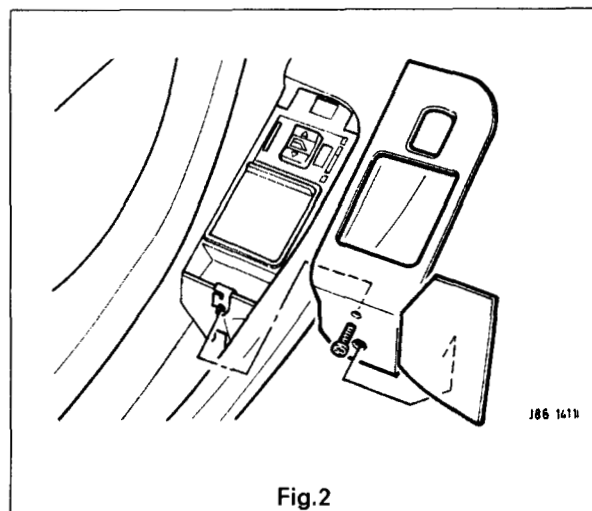

Fig. 2
- Displace and remove the window lift assembly end cover trim pad, Fig. 2.
- Disconnect the multi-plugs (1 Fig. 2) and remove the lamp.
- Disconnect the door speaker multi-plug (2 Fig. 2) and the window lift switch multi-plug (3 Fig. 2).